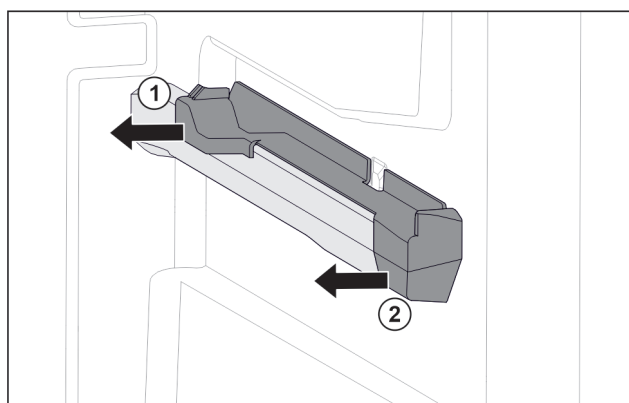

Fig. 96 Attachment on the right moulded rib
- Pull off attachment at the back sideways. Fig. 96 (1)
- Pull off attachment at the front sideways. Fig. 96 (2)